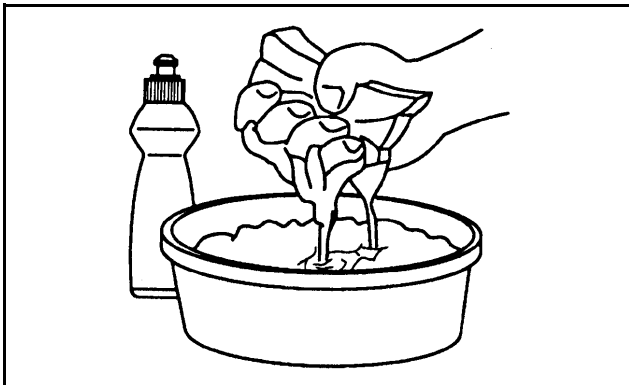

Figure 2
2. Wash air filter in laundry detergent and water. Squeeze filter to remove excess liquid and blot dry with a paper towel or rag (see Figure 2). Do not wring out the element or damage may occur.